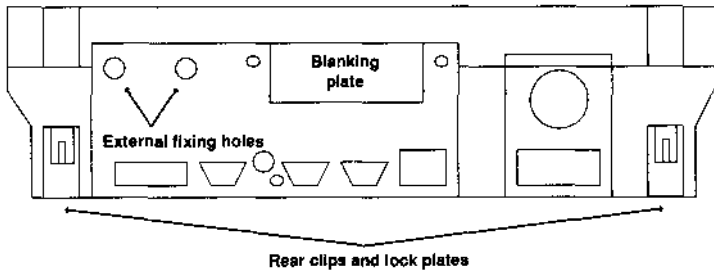

Figure 3. The A3000's rear panel
5. With the rear of the A3000 facing you, locate the two lock plates shown in figure 3 and loosen the retaining screws sufficiently to allow the plates to be slid out.
9. Locate the blanking plate shown in figure 3 and remove it by undoing the screw on either side. The plate should be saved in case the IDE interface is removed at a later date.